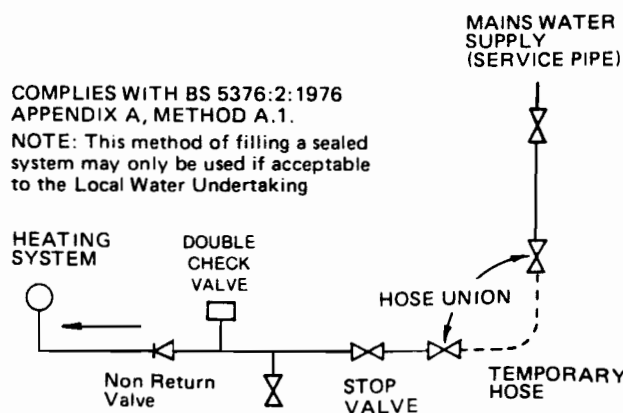

FIG. 5A MAINS TOPPING-UP METHOD
(3) Mains Topping Up Method (see Fig.5A)